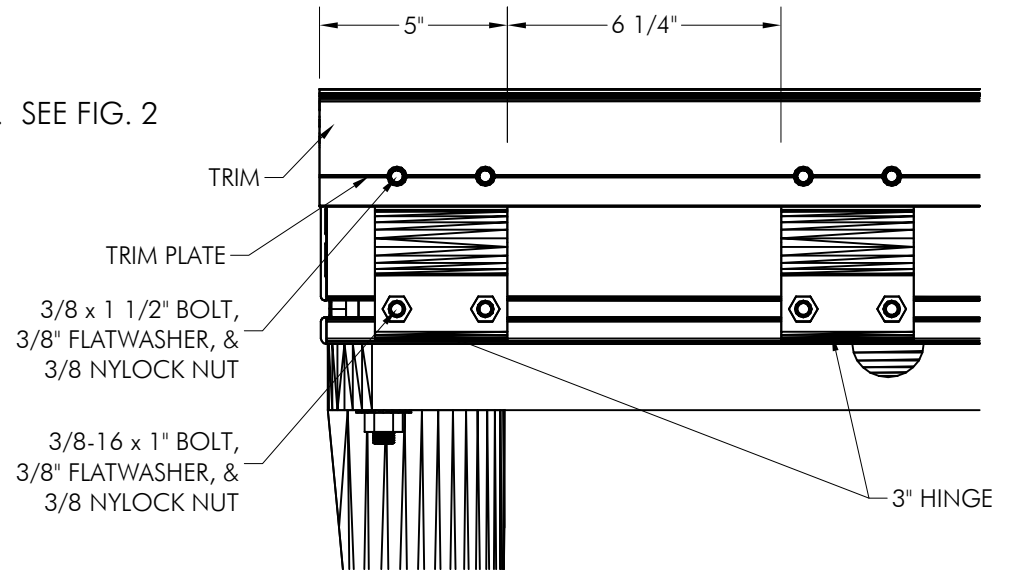

FIG. 2
- LOCATE 3" HINGES AND TORQUE BOLTS TO 40 FT. LBS. SEE FIG. 2